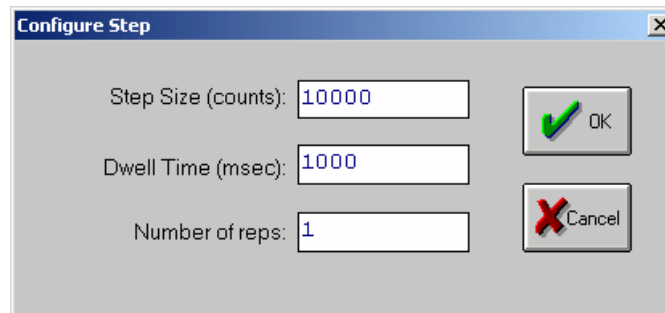

Figure 4: Configure Step Window
- Select **Step** and click on **Setup** button to set up the step signal. A window similar to Figure 4 will open, allowing the specification of the Step Size, Dwell Time (how long is the step) and the number of repetitions.